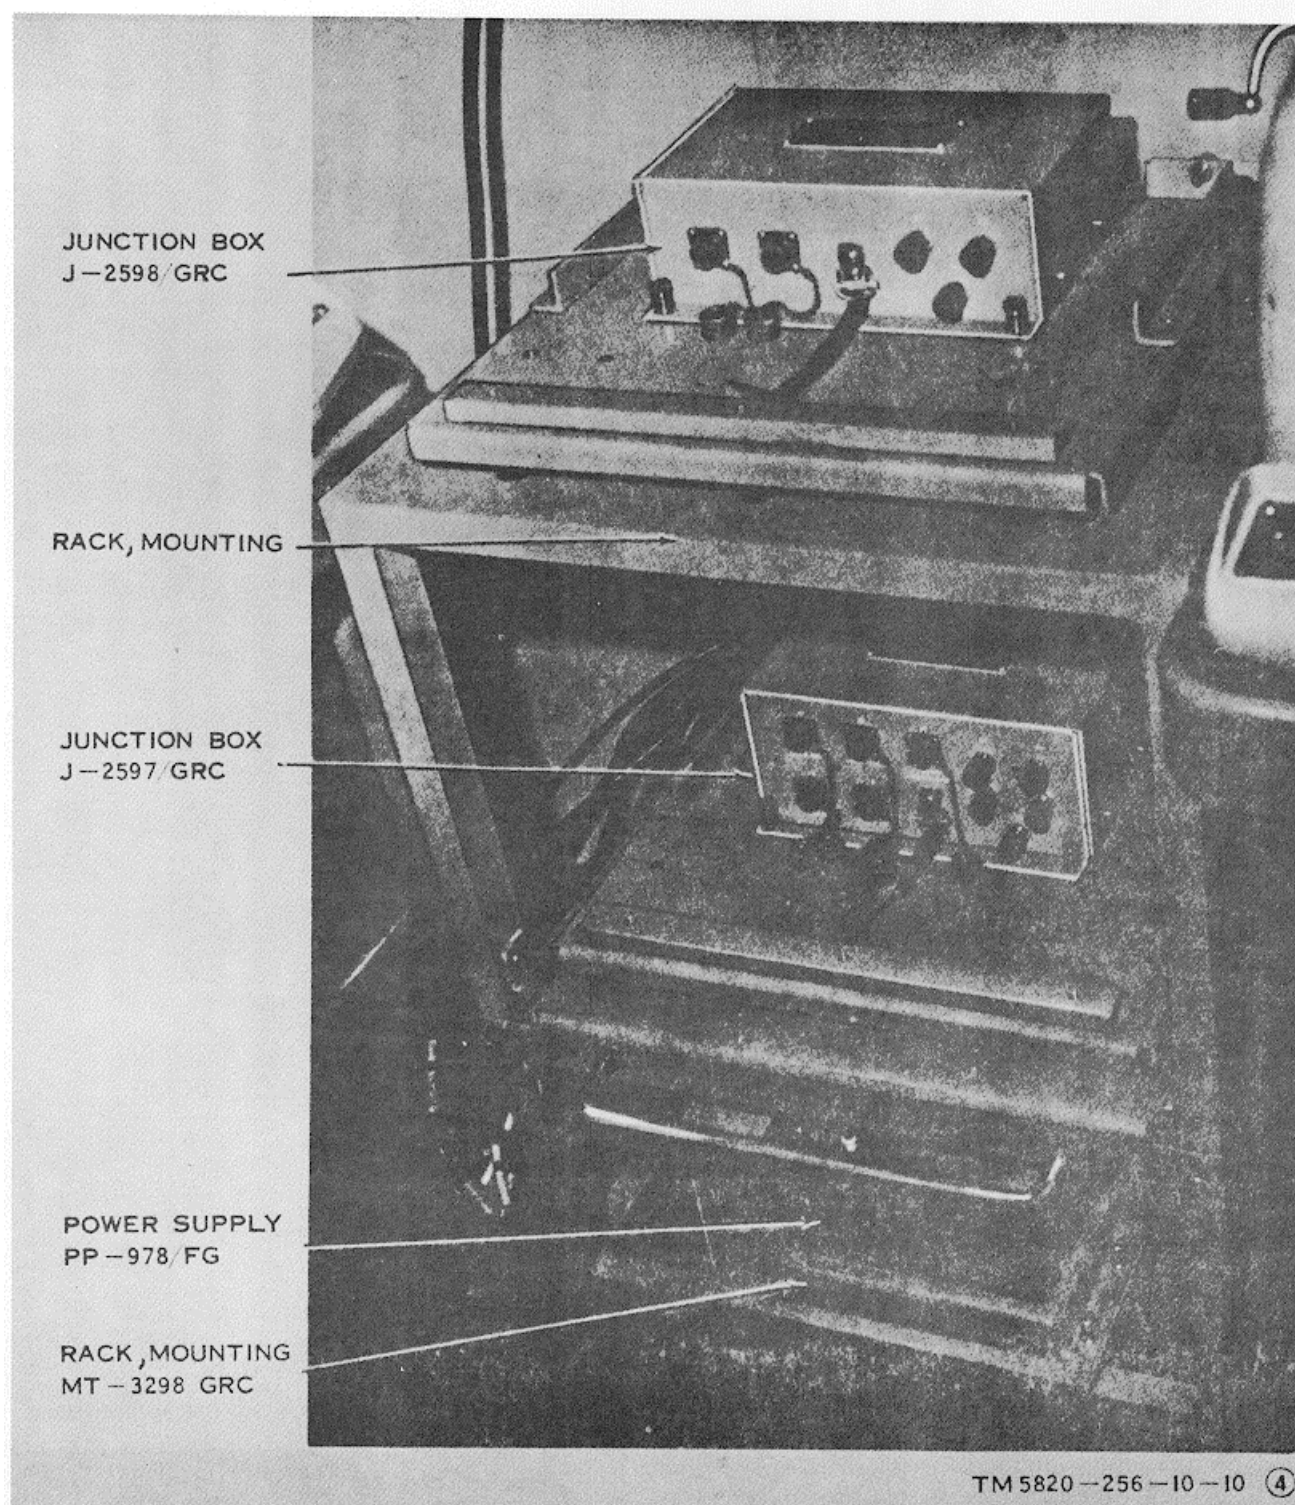

Figure 1-8. Rack mounting equipment
1-24. Junction Box J-2597/GRC (fig. 1-8)
1-25. Junction Box J-2598/GRC (fig. 1-8)
e. *Rack, Mounting MT-3298/GRC* (fig. 1-8). Rack, Mounting MT-3298/GRC is a metal rack designed for holding Power Supply PP-978/FG when it is mounted in the equipment rack. Jacks marked AC IN and DC OUT are provided on the -rack.